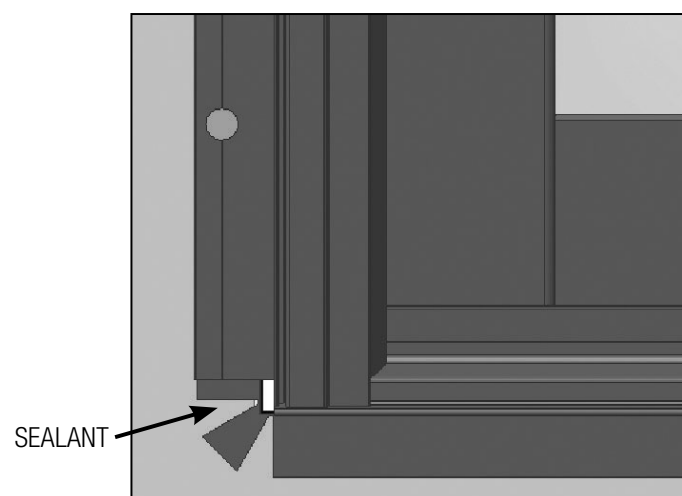

FIG. 15
- A) **IMPORTANT:** Below the nailing fin at both bottom corners, apply a generous amount of silicone to seal the void between the rough opening and the sill. If the gap is too large, insert backer material in the void prior to sealing. (Fig. 15)